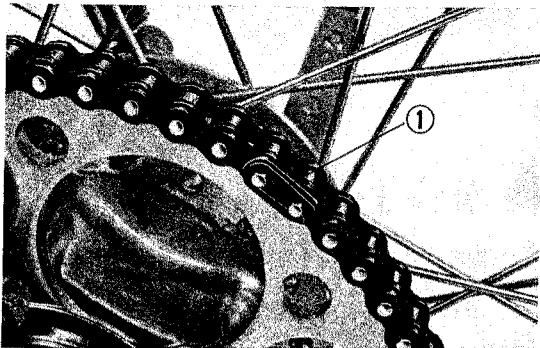

Fig. 27 ① Retaining clip and master link
9) Remove the left side cover. Disconnect the drive chain by removing the clip from the master link. Take out the chain from the motorcycle. (Fig. 27)